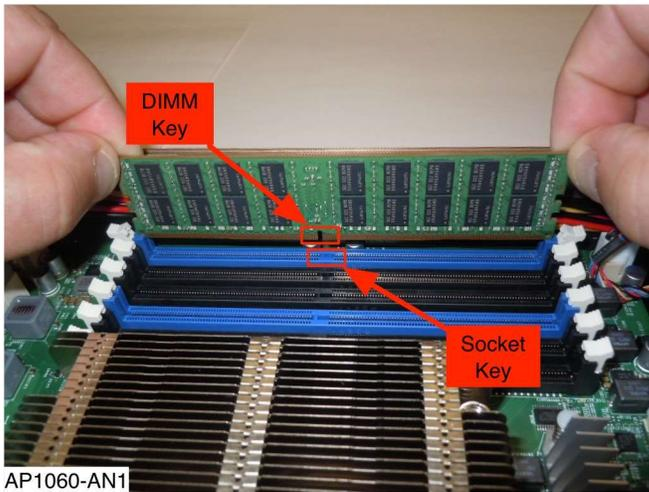

Figure 9: Preparing To Install DIMMs
- 1.7.3 Locate the notch in the gold finger area at the bottom of the DIMM. This is the DIMM key. Locate the molded plastic divider in the base of the DIMM socket. This is the socket key. Align the key in the DIMM with the key in the socket. See Figure 9.